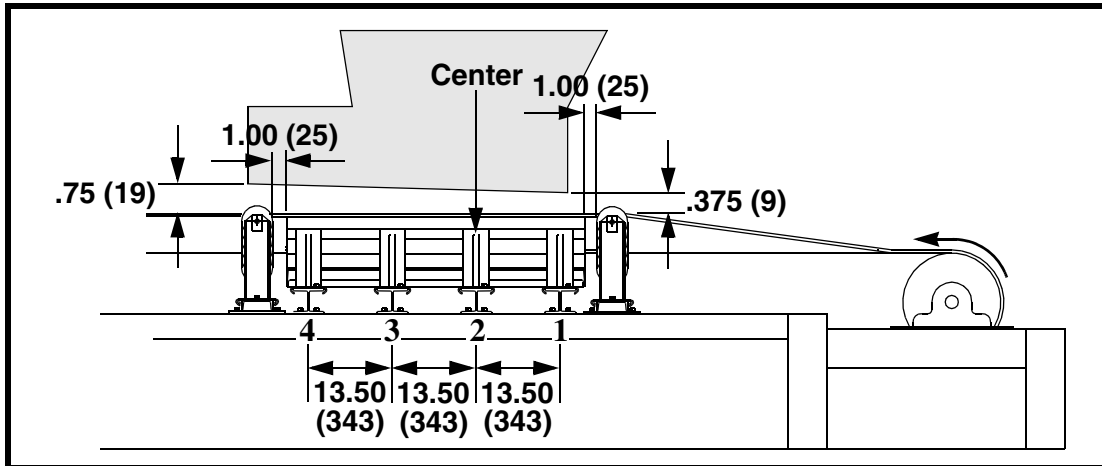

Figure 1. Locating Martin® Trac-Mount™ Impact Cradle
4. See Figure 1. Make sure chute walls and/or wear liners are correct distance above belt as shown. If necessary, modify chute walls and/or wear liners.